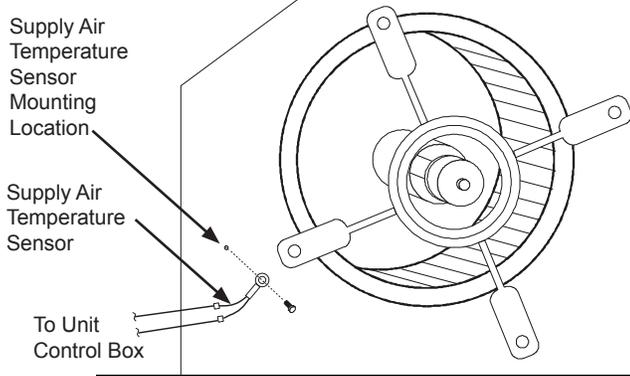
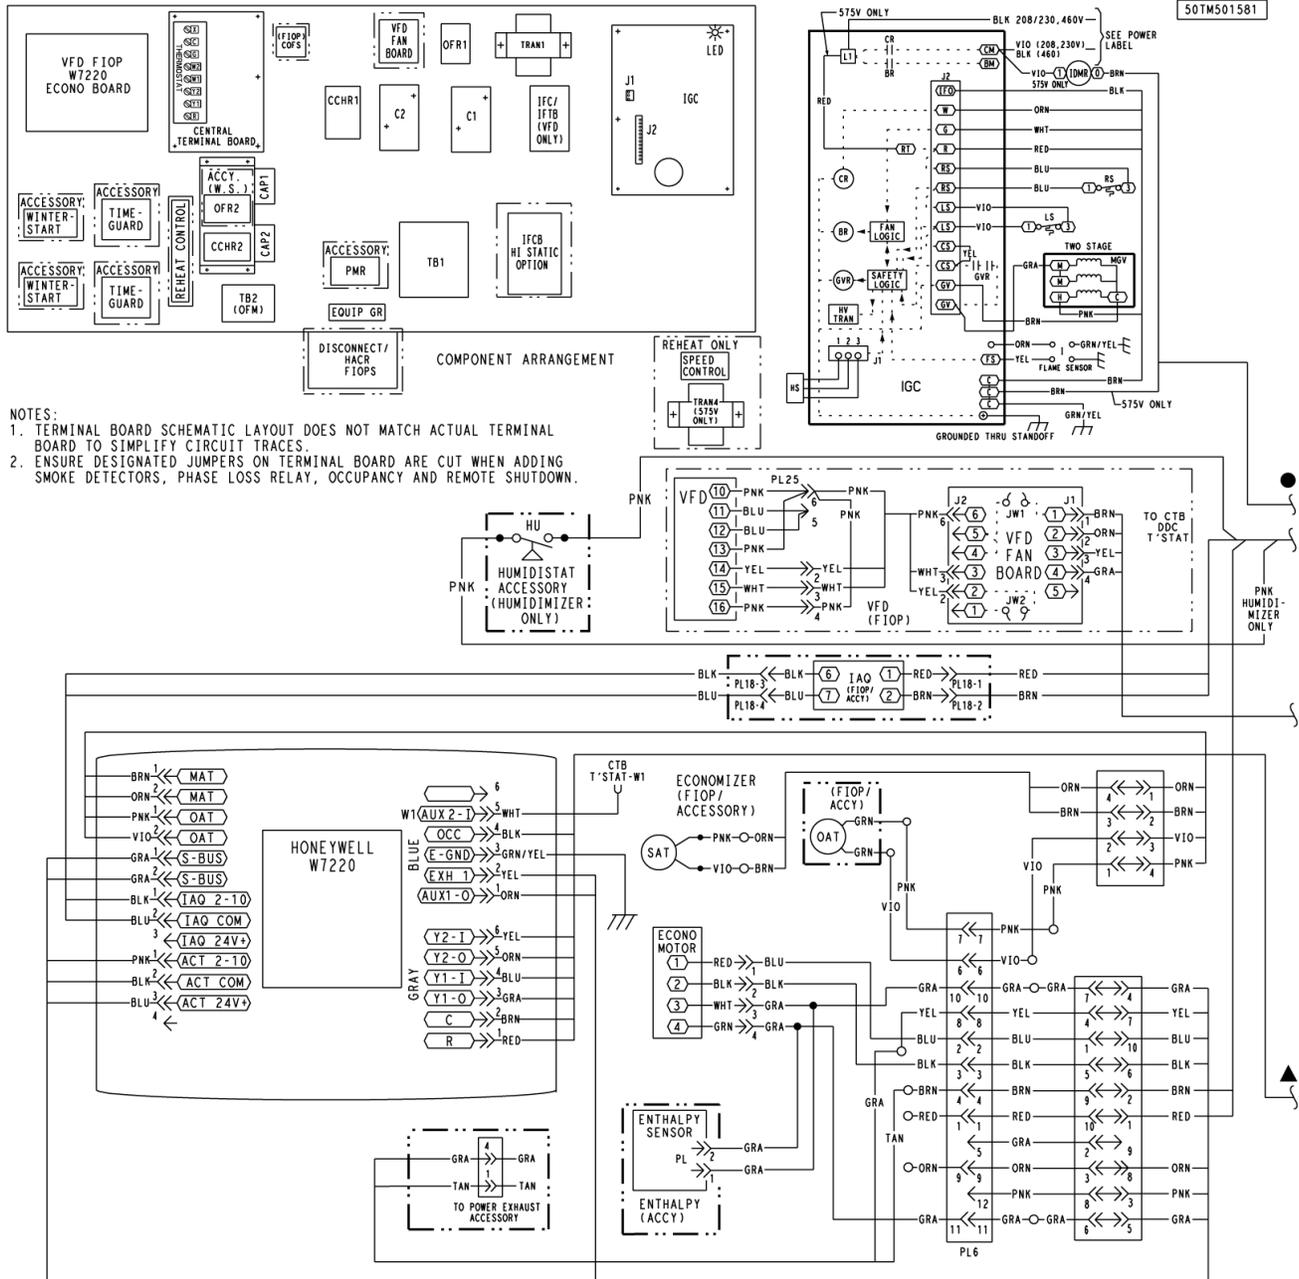

Fig. 10 - Mixed Air Sensor Placement
Fig. 14 - Typical EconoMiSer X Wiring Diagram
- Remove and save the 12-pin jumper plug from the unit wiring harness (located in the upper left corner of the unit). Insert the EconoMi\$er X plug into the unit wiring harness. Refer to Fig. 14 for wiring diagram.
14. The supply air temperature sensor looks like an eyelet terminal with wires running to it. The sensor is located on the “crimp end” and is sealed from moisture. Mount the supply air temperature sensor (provided) to the lower left section of the indoor fan blower housing. (See Fig. 10.) Use the screw provided and use existing hole. Connect the violet and pink wires to the corresponding connections on the supply air temperature sensor. (See Fig. 14.) Reinstall the indoor fan motor access panel.
19. The W7220 EconoMi\$er X controller is shipped mounted to a bracket. Install the controller / bracket in the top left corner of the unit control box as shown in wiring diagram, Fig. 14. Screw in place through pre-punched holes.